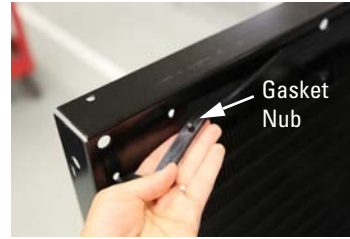

Figure 17: Position gasket on refrigeration module frame and ensure each gasket nub is inserted in corresponding hole
3. Ensure the black gasket is aligned and gasket nubs are inserted in corresponding holes on the frame of the refrigerator module (Figure 17).